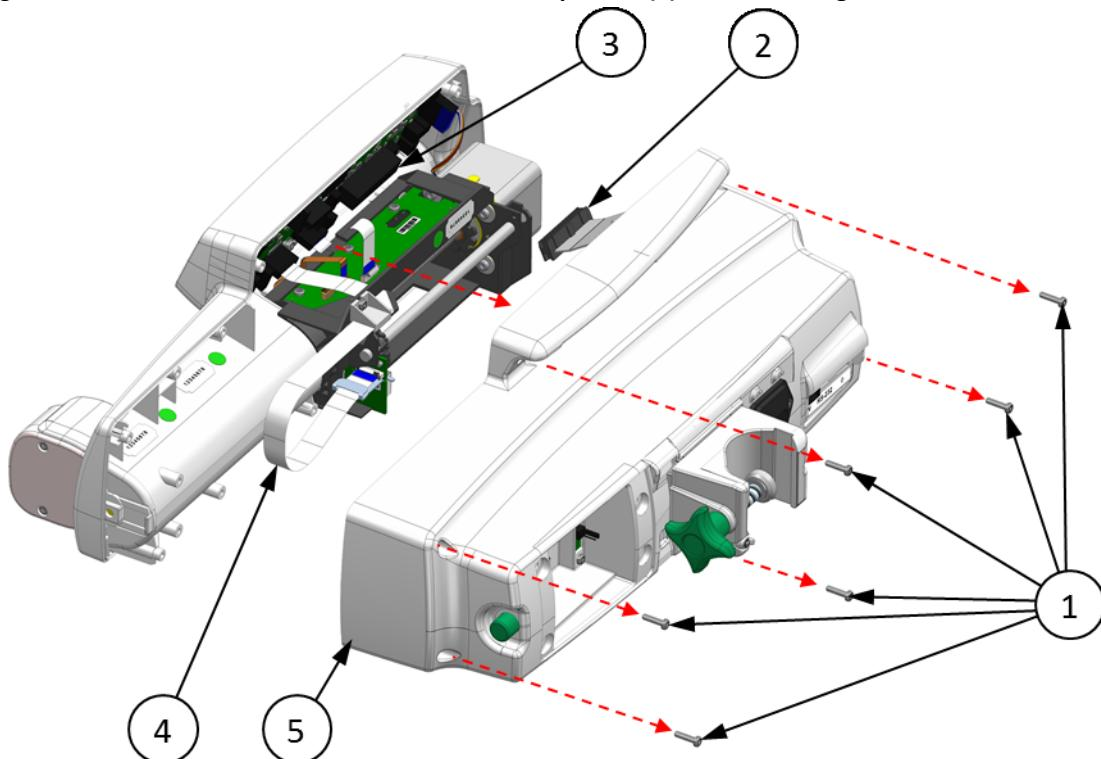
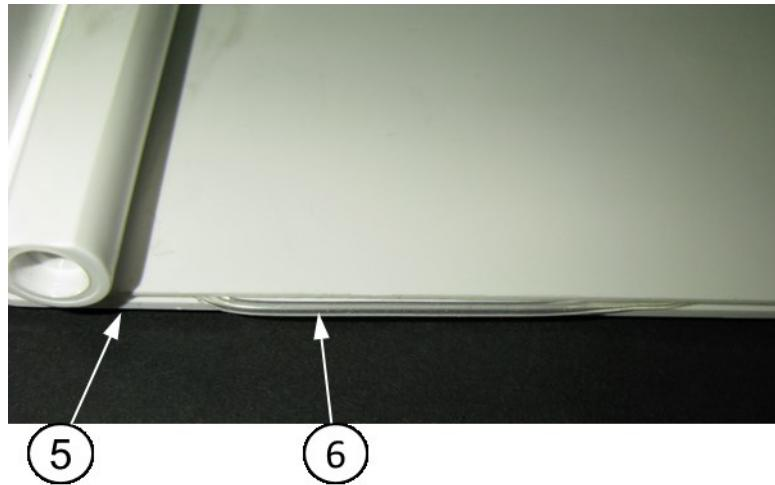

Fig. 37 Syringe pump disassembly/assembly
Fig. 38 Possible way to fall out the Case gasket
2. Using the **TB-1** screwdriver unscrew six **3x12 screws for plastics** (**1**) as shown in **Fig. 37**.
3. Carefully separate both parts of the case, making sure not to let the **Case gasket** (**6**) fall out of the groove in the **Back case set** (**5**) as shown in **Fig. 38**.
4. Disconnect the **IDE Ribbon** (**2**) from the **Ribbon socket** (**3**) as shown in **Fig. 37**.
1. Check if the **Case gasket** (**6**) did not fall out of the groove in **Back case set** (**5**) as shown in **Fig. 38**. If the **Case gasket** (**6**) did fall out then place it gently back in the groove using the **TA-15** tweezers.
2. Connect the **IDE ribbon (2)** to the **Ribbon socket (3)** (see Fig. 37).
- the **IV set holder** is placed in the **Front case (5)**;
- **Moving ribbon (4)** and **IDE Ribbon (2)** are not bent and are placed as shown in Fig. 37.
4. Using a **TA-41** torque screwdriver with **TA-42** replaceable bit screw six **3x12 screws for plastic (1)** into the holes in **Back case set (6)**(see Fig. 38) as shown in Fig. 37. Screw the screws in, according to guidelines described in chapter **13.1.2**.